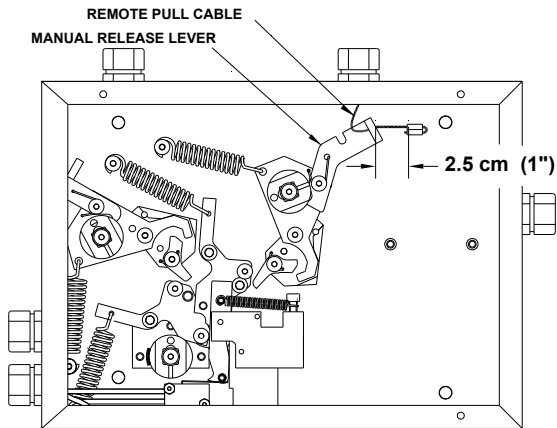

Figure 4-50.
3. Install a cable crimp and loop the cable back through the crimp so that **NO** loop is exposed. There should be approximately 1" (2.5 cm) of cable left between the crimp and the Manual Release Lever. See **Figure 4-50**
1. The secondary detection line will enter the enclosure from the top left knock out as shown in **Figure 4-50**.